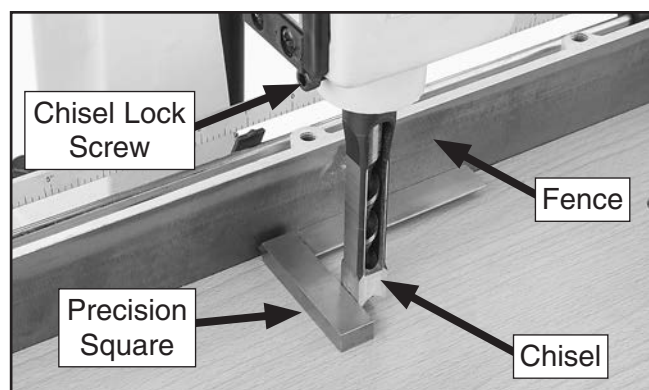

Figure 14. Squaring chisel to fence.
- Slide bit into chisel (see **Figure 14**), and insert chisel/bit assembly into headstock until it stops at bushing and allow it to slide back down $\frac{1}{64}$ ". Tighten bit in chuck using chuck key, then tighten lock screw to secure chisel.
- Lower headstock down to just above work-table surface and place a precision square against fence face. Ensure outside of chisel is perpendicular to fence, as shown in **Figure 14**.